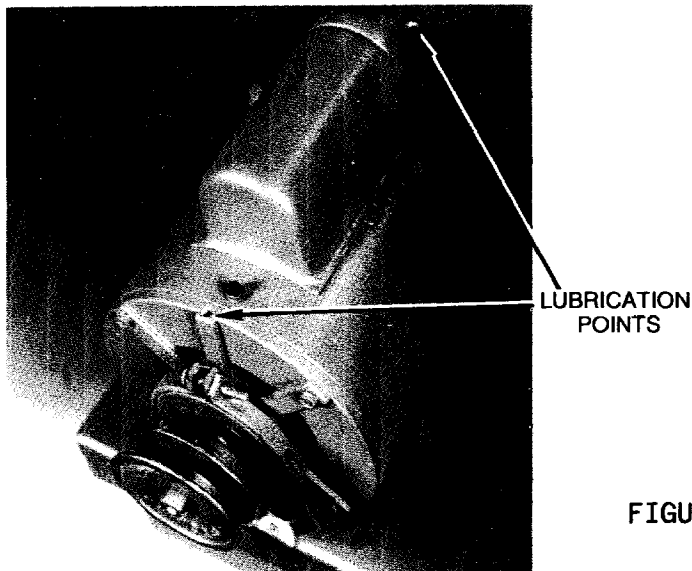

FIGURE 18 - Purge Motor
2. Lubricate the purge compressor drive motor bearings with a good grade of SAE-20 nondetergent motor oil. The lubrication points are illustrated in Figure 18.